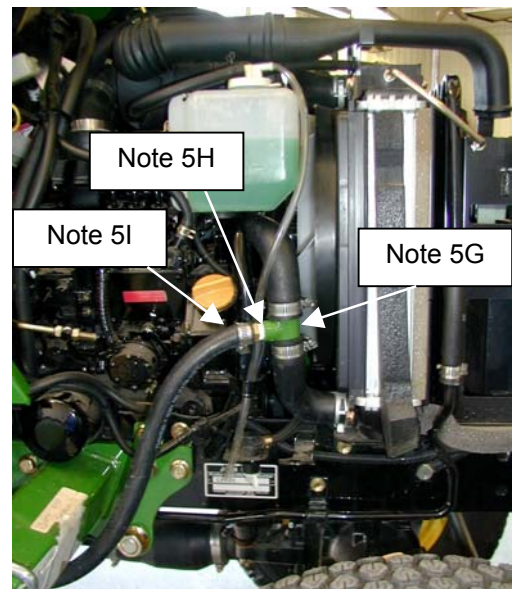

Figure 5G
- G. The lower radiator hose will need to be cut for installation of the lower radiator hose "T" fitting #7-11308. See Figure 5G.
- H. Install 5/8" hose to NPT fitting #3-12119 into the lower radiator hose "T" fitting. See Figure 5G.
- I. Measure and cut the 5/8" heater hose from the right side (Return Line) of the cab with the 90-degree elbow #3-10282 to the lower radiator hose "T" nipple fitting. See Figure 5G.